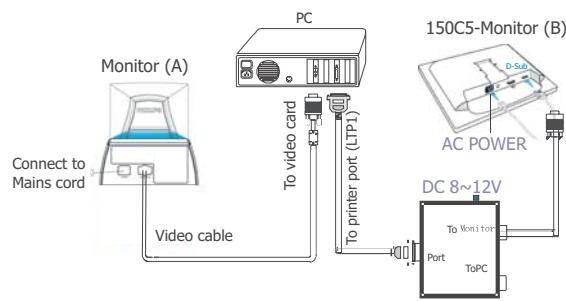

Fig. 3
NOTE: You can use A/D alignment kits (12NC: 3138 106 10079) to perform this work also, the connection as shown in Fig. 3. All the perform steps are same as DDC2BI_ISP TOOL.
Step 1 : Make a folder in your PC as shown in Fig. 3.